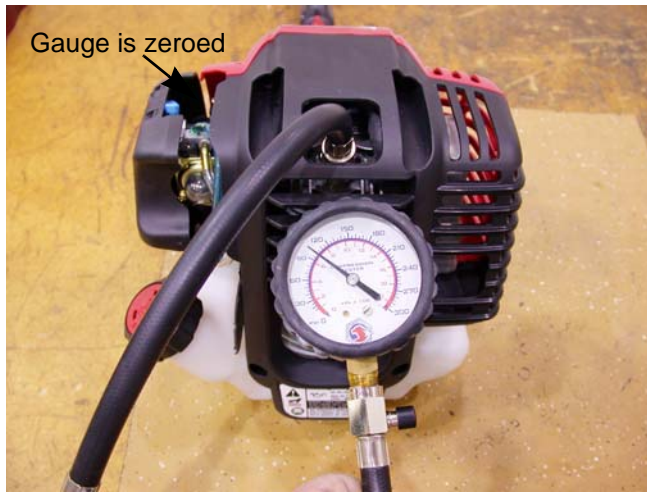

Figure 3.1
5. Confirm that the gauge is "zeroed", then pull the starter rope repeatedly, until the needle on the gauge stops rising. See Figure 3.1.